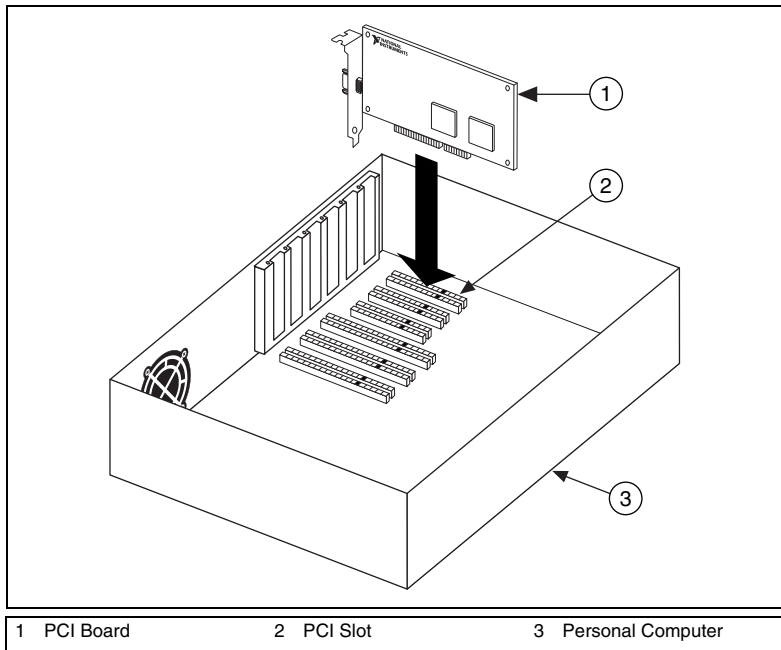

Figure 1. Installing the PCI-GPIB
7. Insert the PCI-GPIB into the slot with the GPIB connector sticking out of the opening on the back panel, as shown in Figure 1. It might be a tight fit, but do *not* force the board into place.